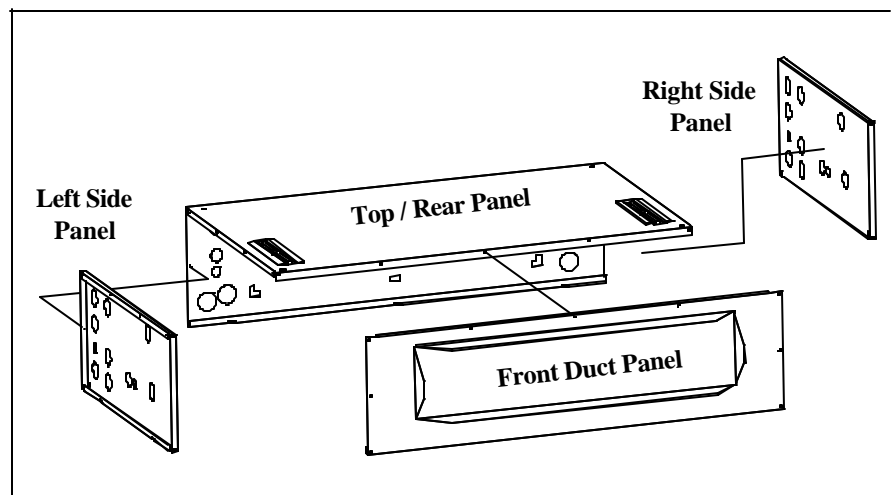

Figure 1
- 1) Locate top/rear panel and fold down 90 degrees along perforated line to form the part. See figure 1.
- 2) Locate front duct panel and assemble to the top panel with screws as shown in figure 1.
- 3) Locate left and right side panels and assemble to the wrapper with screws as shown in figure 1.